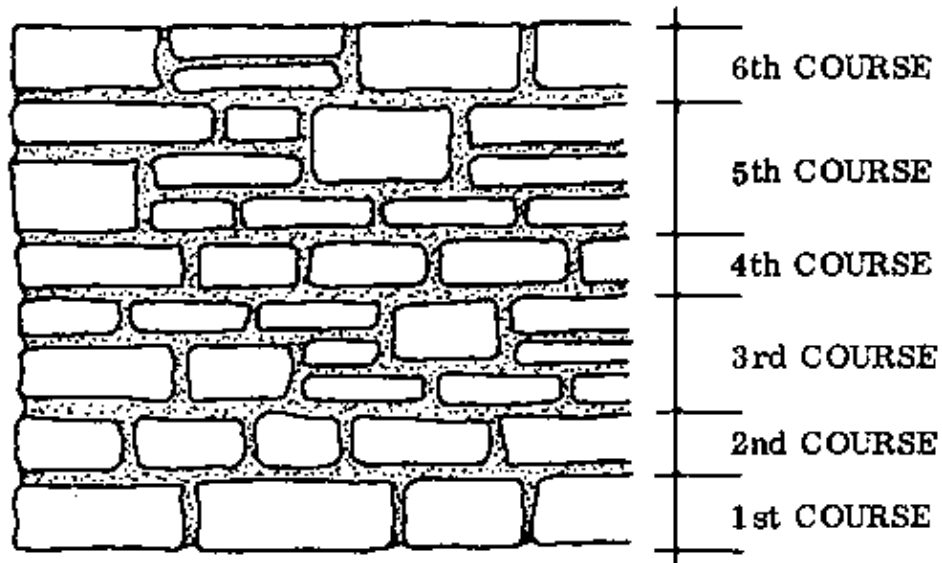

Fig. 1 BROKEN RANGE MASONRY
– BROKEN RANGE MASONRY: The stones of this masonry are accurately shaped with the club hammer and cold chisel (Reference Book, page 15) so that all the faces are square to each other. The bond should not contain joints more than 3 cm thick. The height of the stones may vary within a course, and the height of the courses may also vary, with the result that the courses are continuous for only short distances (Fig. 1).